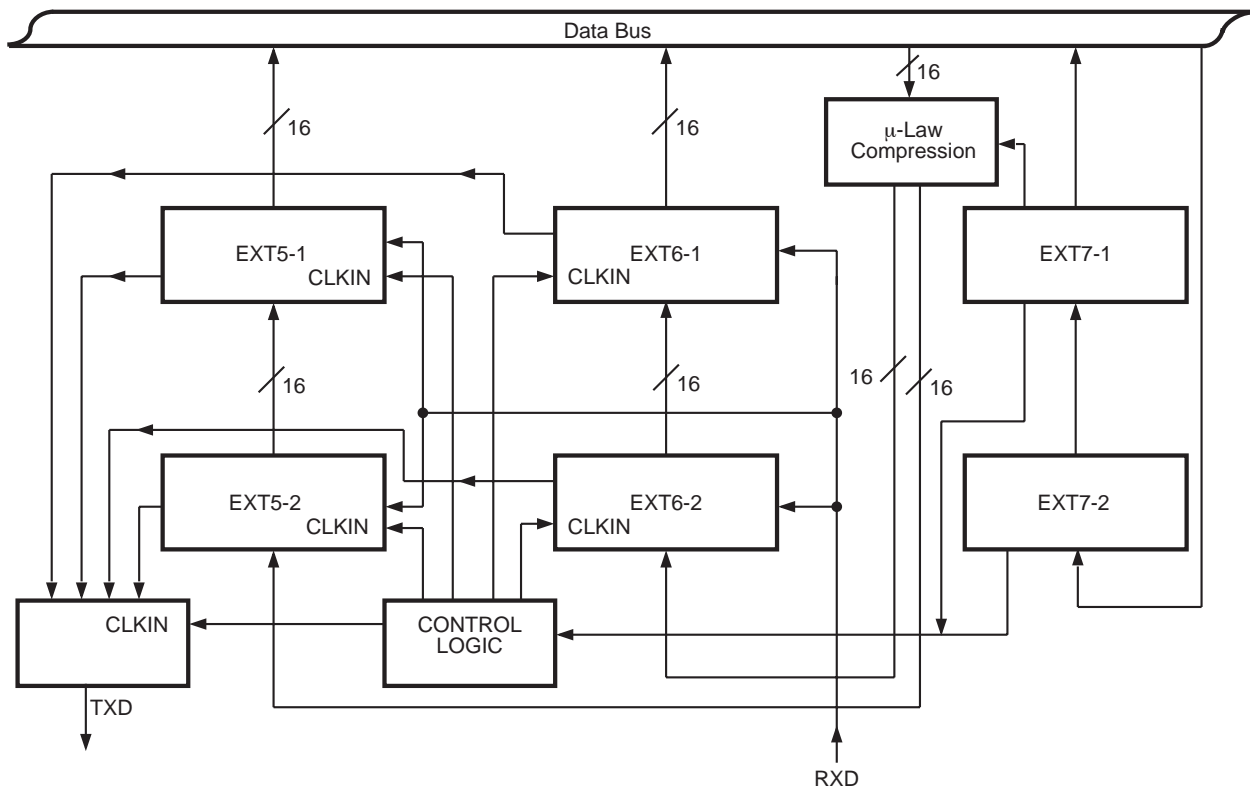

Figure 20. CODEC Interface Block Diagram
**Note:** EXT5-1 and EXT5-2 are used in the example, but this information applies equally to EXT6-1 and EXT6-2. (Refer to Figure 20, CODEC Block Diagram.)
The CODEC Interface hardware uses six 16-bit registers,  $\mu$ -law compression logic and general-purpose logic to control transfers to the appropriate register (Figure 20).